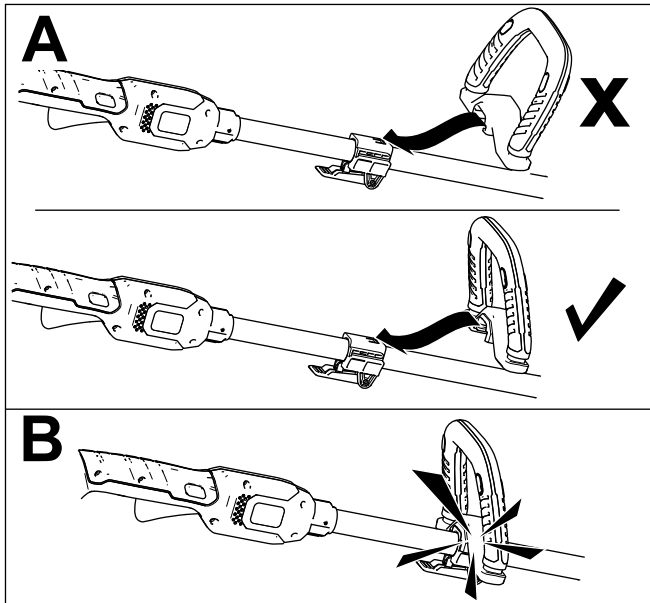

Figure 4
1. Line up the groove along the handle with the groove on the auxiliary handle and slide the auxiliary handle toward the trimmer handle (A of Figure 4).
2. Snap the handle securely into place (B of Figure 4).